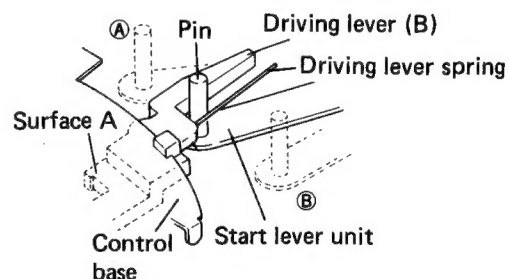

Fig. 4-2 Misaligned pin of start lever unit
As shown in figure 4-2, if the start lever unit pin is out of line in the direction of (A), repeat will not operate. If it is too far in the direction of (B), the unit will not start. In these cases, assemble referring to the method of joining the panel and bottom panel (lid).